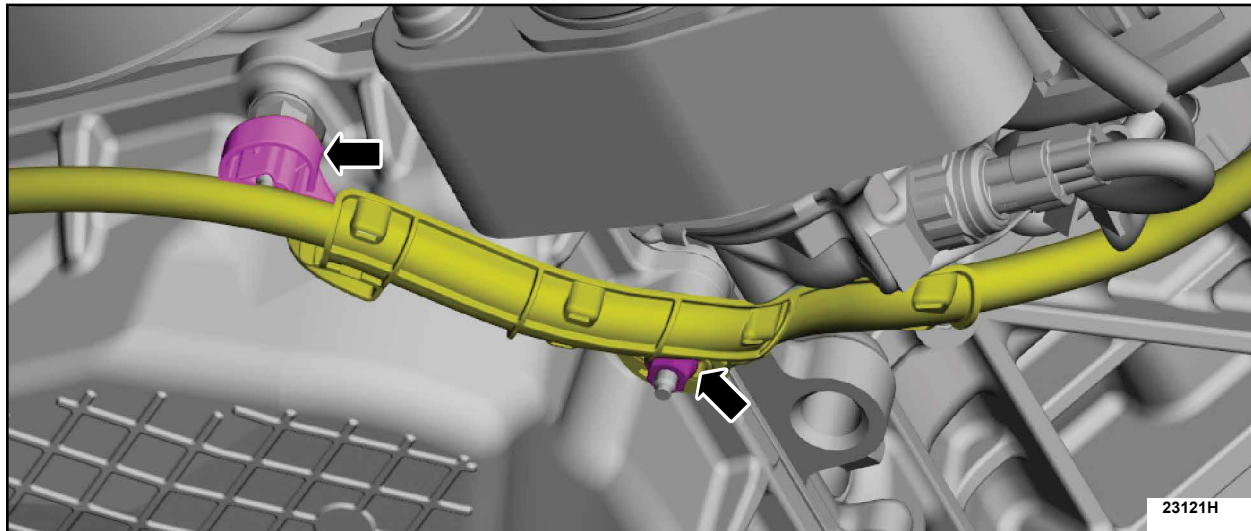

FIGURE 6
19. Detach the wiring harness retainer, remove the nut and position the wiring harness aside. See Figure 6.